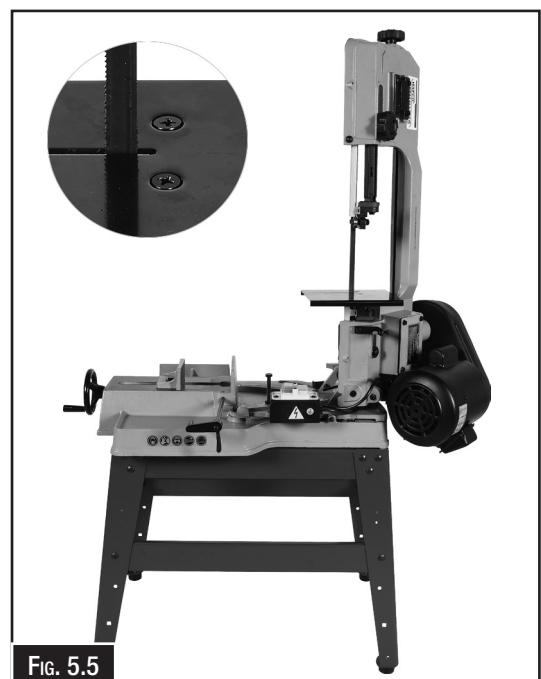

FIG. 5.5
3. Remove the two flat head screws and the blade guide cover shown in Fig. 5.5.